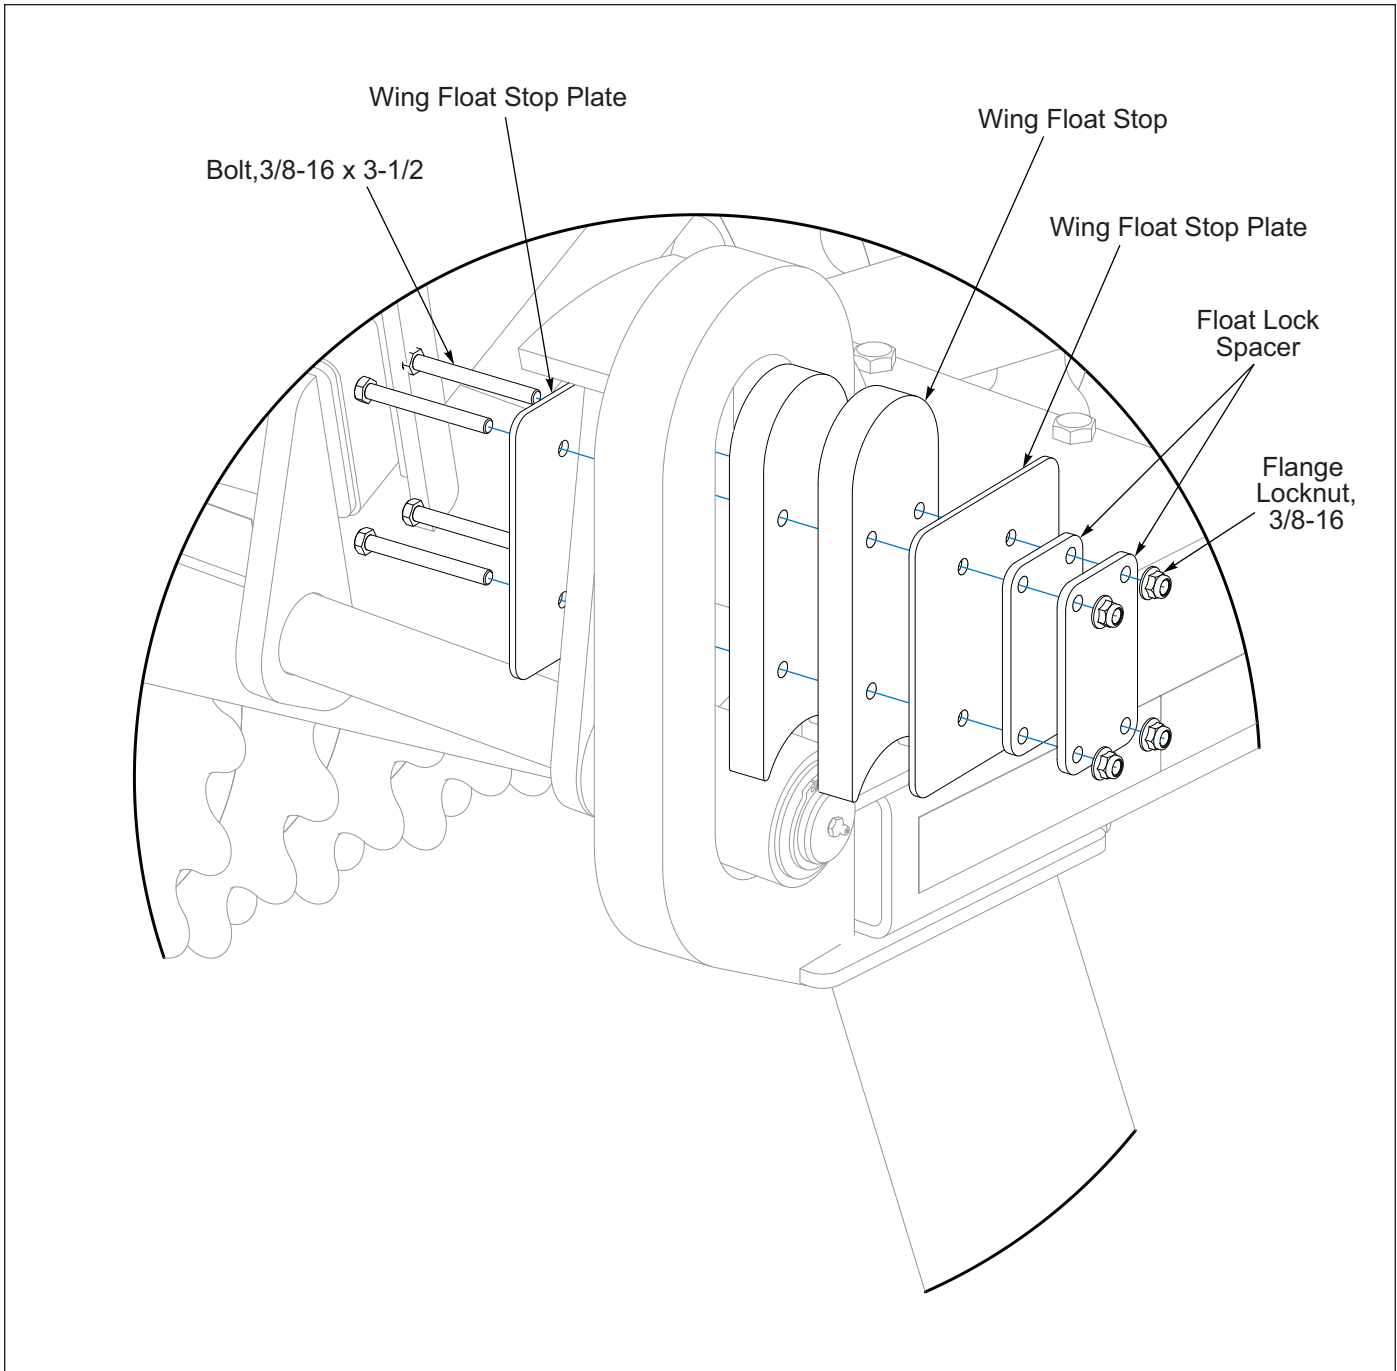

Figure 2-27: Float Lock Kit - Optional
1. Place Wing Float Stops into the Center Frame Yoke/Guide. **See Figure 2-27.**